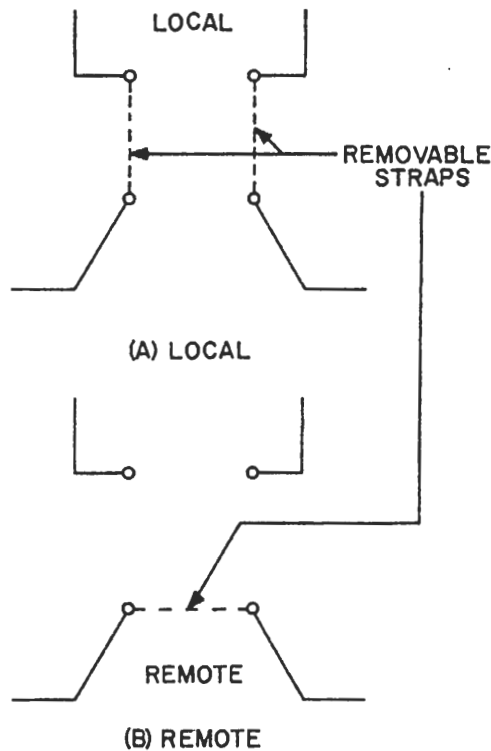

Figure 2-4. Method of Connecting Removable Straps.
(1) Signal loop. - Changing from local battery to remote battery, 120 volts DC, remove the two local battery straps and place a strap across the two bottom lugs as shown in figure 2-4.
(2) Signal loop. - Strap out the 600 ohm 10 watt fixed resistors when external loop resistance exceeds 1400 ohms or loop current cannot be raised to 60 milliamperes.
(3) Stepping loop. - Changing from local battery to remote battery 67 volts DC or 120 volts DC, remove the two local battery straps and place a strap across the two bottom lugs as shown in figure 2-4.